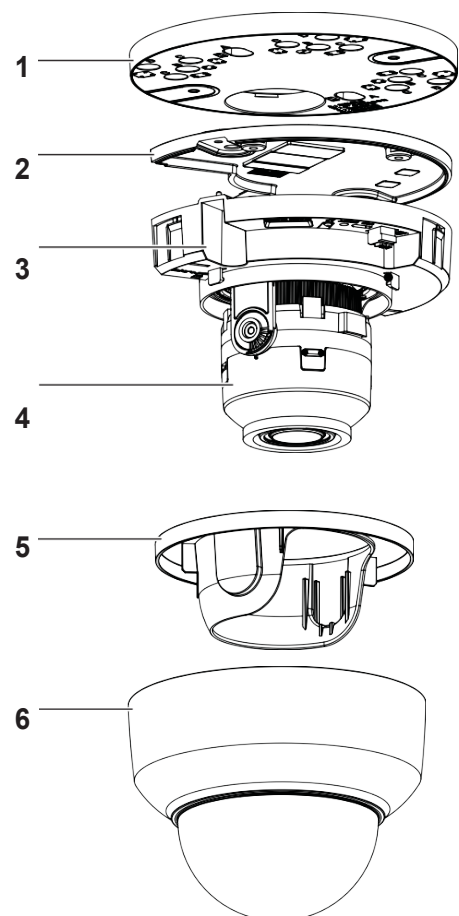
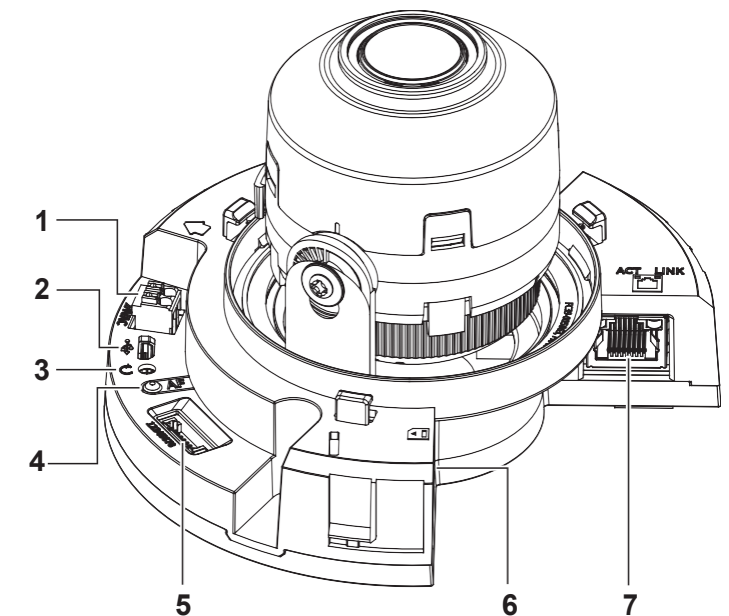

Figure 1
Figure 2
Camera Parts: Figure 1
5. Gently pull up and remove the camera lens cover (5) (Figure 1) to easily access the cable connections and buttons.
7. Before you secure the mounting plate (1) (Figure 1) to the camera base (2) (Figure 2) you must place the cable through the cable hole on the camera mounting plate.
12. Insert the camera lens cover (5) (Figure 1) on to the camera lens.
13. Hold the camera dome (6) (Figure 1) up to the camera base and rotate the camera dome to securely lock it to the camera base.
Camera buttons and connections: Figure 2
- Hold the camera dome (6) (Figure 1) with one hand and rotate the camera base (2) (Figure 1) to unlock it and remove it from the dome.
- Hold the camera dome (6) (Figure 1) up to the camera base (2) (Figure 1) and rotate the camera dome to securely lock it to the camera base.